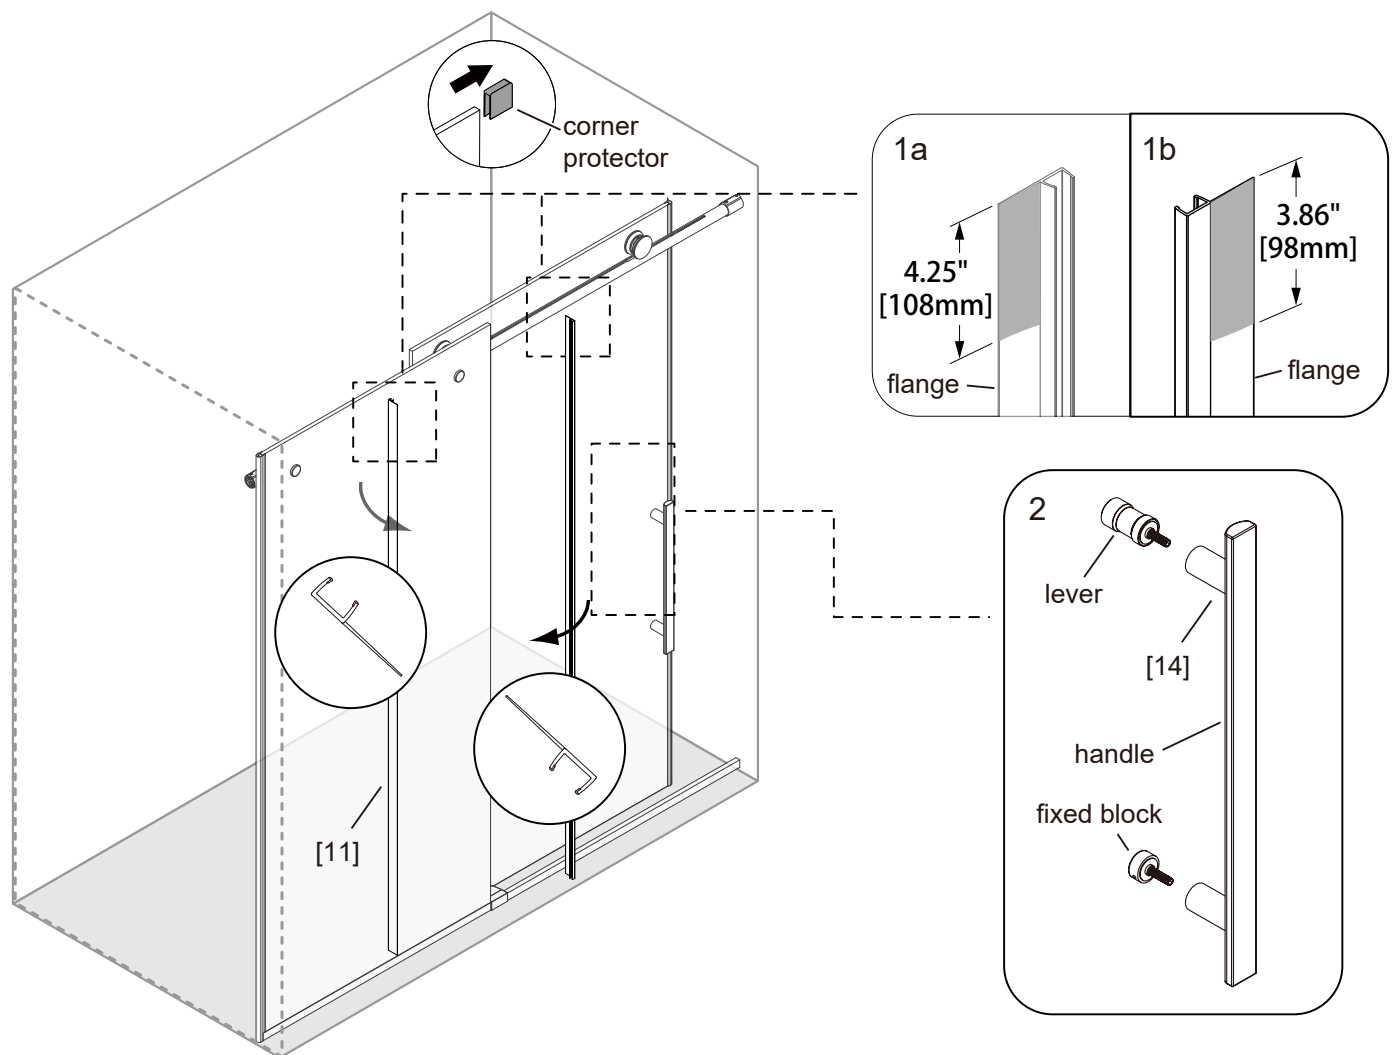

Fig 10
1. Remove the **corner protectors** from the **Door [12]** and install one of the **Water Sealing Strip #2 [11]** to the sides of **Door [12]**. The **flange** of **Water Sealing Strip #2 [11]** face outside. The upper side of **Water Sealing Strip #2 [11]** aligns with the top of the **Door [12]**. (Fig 10)
2. Remove the **corner protectors** from the **Fixed Panel [10]** and install another one of the **Water Sealing Strip #2 [11]** to the sides of **Fixed Panel [10]**. The **flange** of **Water Sealing Strip #2 [11]** face inside. The upper side of **Water Sealing Strip #2 [11]** aligns with the top of the **Fixed Panel [10]**. (Fig 10)